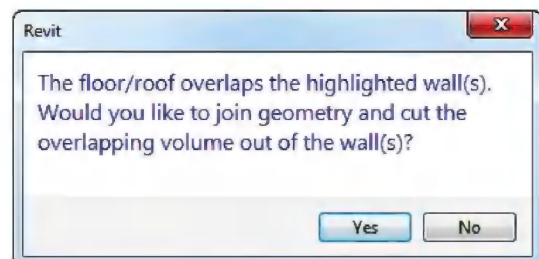

FIGURE 2-4.6 Join geometry prompt
12. Click **Yes** to the join geometry prompt (Figure 2-4.6).